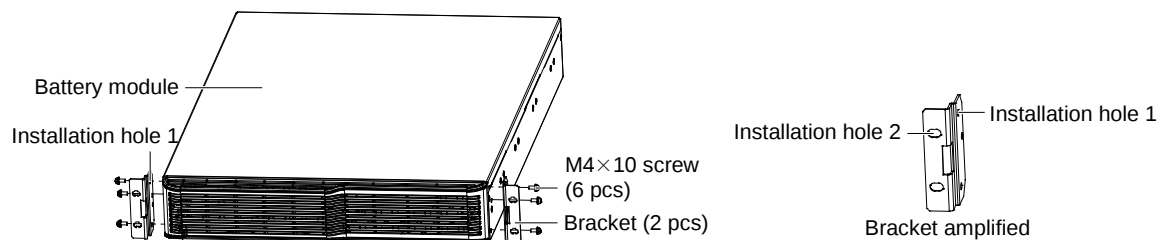

Figure 2-4 Installing bracket
1. Take out two brackets and six M4 × 10 screws from the accessories, and fix the brackets onto the battery module using the screws through installation hole1, as shown in Figure 2-4.